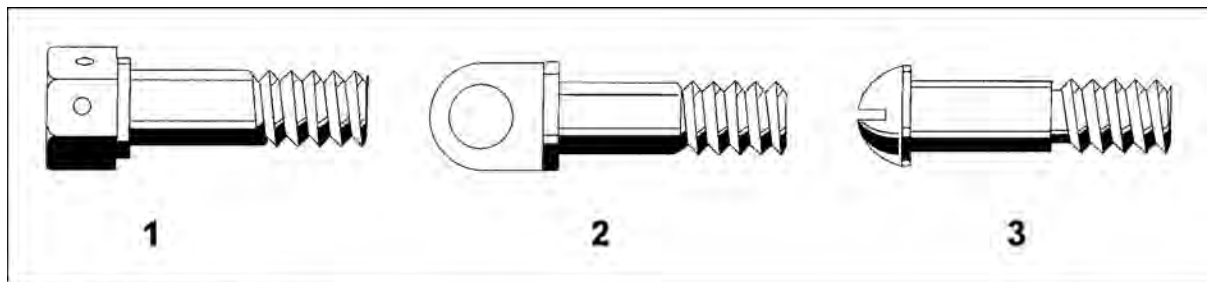

Figure 43. Aircraft Hardware
- 8267.** (Refer to Figure 43.) Identify the clevis bolt illustrated.